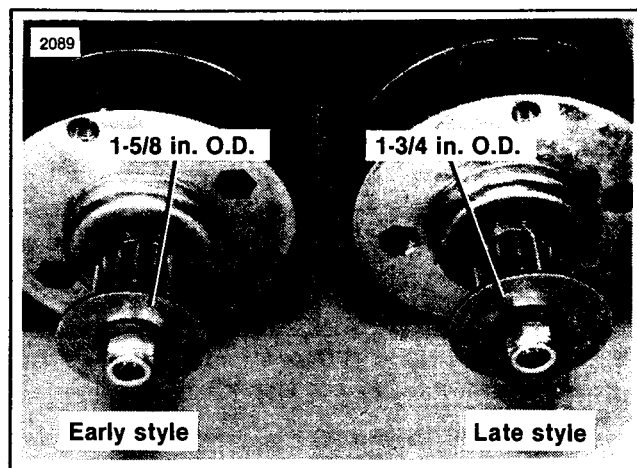

Figure 4. Oil Separator Washer Installation
4. See Figure 4. Remove the generator armature gear shaft nut, gear shaft washer and early style oil separator washer. Install the late style oil separator washer, gear shaft washer and gear shaft nut on the armature shaft. Tighten armature gear shaft nut 6-8 ft- lbs torque.